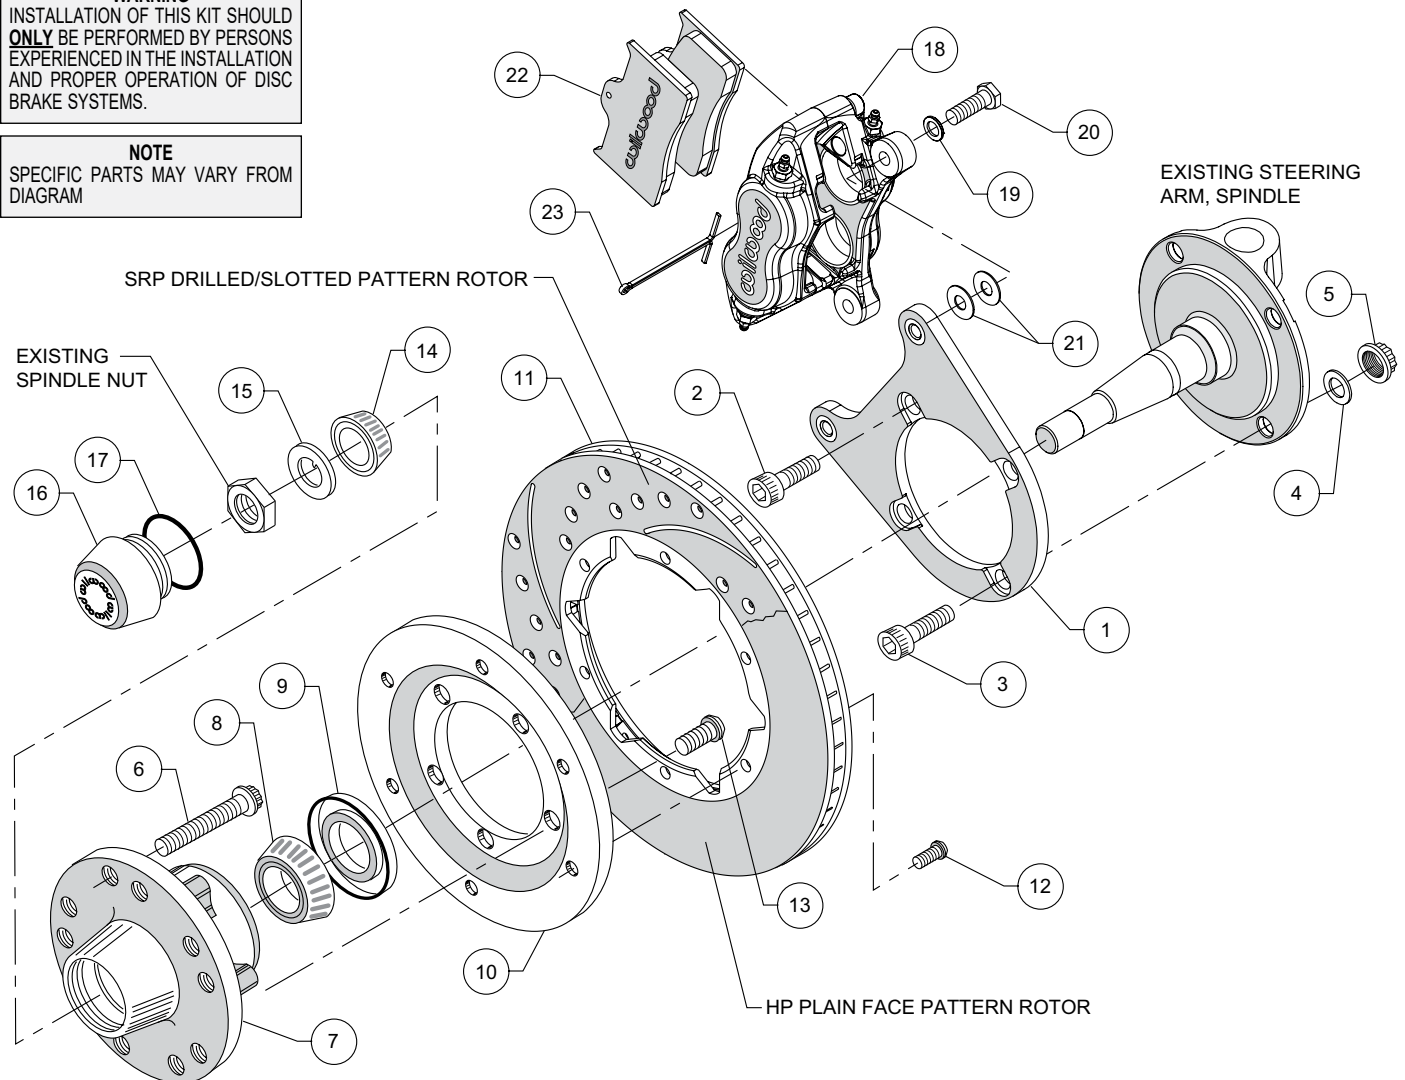
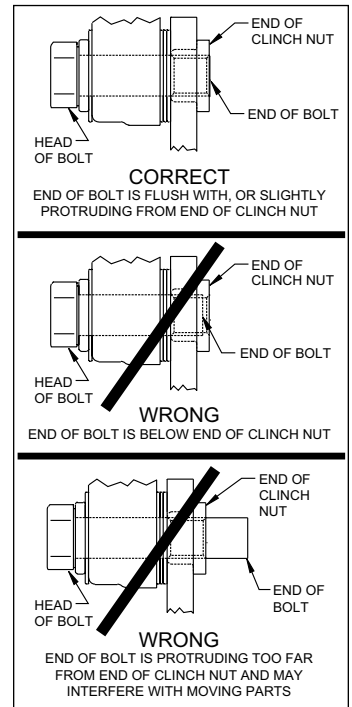

Figure 1. Typical Installation Configuration
Figure 3. Clinch Nut Engagement Diagram
NOTE: Numbers in parenthesis refer to the parts list and Figure 1 on the preceding pages.
CAUTION: All mounting bolts must fully engage clinch nuts. Be sure to check that all bolts are either flush or protruding through flanged side of clinch nut after shimming, Figure 3.
- Orient the caliper mount bracket (1) as shown in Figure 1. Install using bolts (2) threaded into the steering arm and bolts (3), washers (4), and locknuts (5), Figure 1. Ensure that the flanged heads of the clinch nuts in the bracket are facing outboard, Figure 1. Temporarily tighten the mounting bolts. **NOTE:** The bracket must fit squarely against the mounting points on the spindle. Inspect for interference from casting irregularities, machining ridges, burrs, etc. Torque locknuts (5) to 65 ft-lb. Apply red *Loctite*® 271 to the threads of bolts (2) and torque to 80 ft-lb.
- Install wheel studs (6) into the hub (7), Photo 2. Torque to 77 ft-lb. **NOTE:** There are two five lug patterns in the hub (5 x 4.50 and 5 x 4.75). Ensure the correct hub stud pattern is being used to fit the wheel application.
- Pack the large inner bearing cone (8) with high temperature disc brake bearing grease (available from your local auto parts store) and install into the backside of the hub (7), Photo 3.
- Install the grease seal (9) by pressing into the backside of the hub (7), flush with the end of the hub, Photo 3.
- Orient the rotor (11) and the rotor adapter (10) as shown in Figure 1 and Photo 4. Attach the rotor to the adapter using bolts (12). Using an alternating sequence, apply red *Loctite*® 271 to the threads, and torque to 25 ft-lb.
- Mount the adapter/rotor assembly (10/11) to the hub (7) using bolts (13), as shown in Figure 1 and Photo 5. Using an alternating sequence, apply red *Loctite*® 271 to the threads, and torque to 45 ft-lb.
- Pack the small outer bearing cone (14) with high temperature disc brake bearing grease and install into hub (7). Slide the hub/rotor assembly onto the spindle. Secure using spindle
- NOTE:** *Please reference the caution statement at the beginning of the assembly instructions.* Mount the caliper (18) onto the caliper mounting bracket (1) using bolts (20) and washers (19), as shown in Figure 1. Initially place two .035" thick shims (21) on each bolt between the caliper and the bracket, Photo 8. Temporarily tighten the mounting bolts and view the rotor (11) through the top opening of the caliper. The rotor should be centered in the caliper, Photo 9. If not, adjust by adding or subtracting shims between the bracket and the caliper. Always use the same amount of shims on each of the two mounting bolts. **NOTE:** *The end of each bolt must be flush with or slightly protruding from the head of the clinch nut, as shown in Figure 3.* If necessary place spare shims between washer (19) and caliper mounting ear to achieve the proper clinch nut engagement. Once the caliper alignment and clinch nut engagement are correct, remove the bolts one at a time, apply red *Loctite® 271* to bolt threads, and torque to 40 ft-lb.